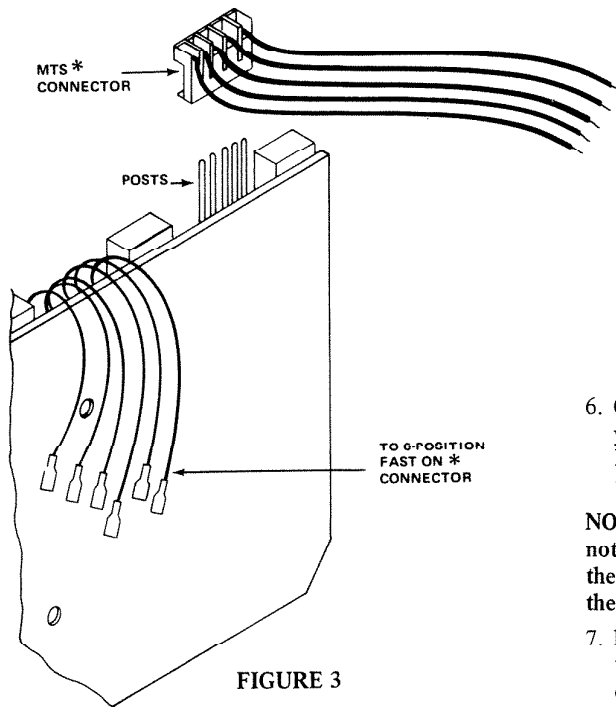

FIGURE 3
7. Push the red **M.T.S.*** connector of the cable assembly onto the five-position post which is located at the top right corner of the chime board. See Figure 3.